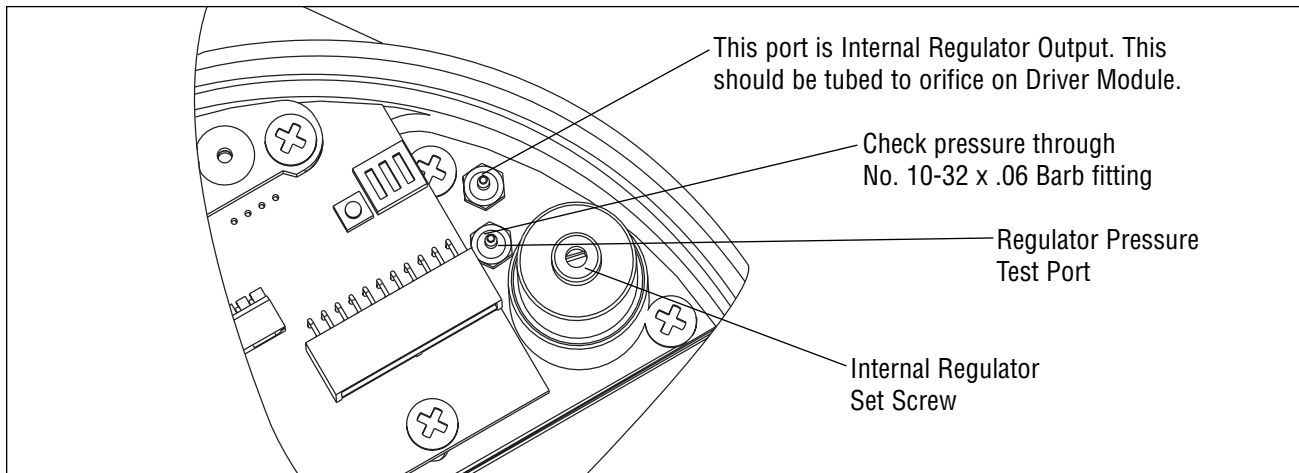

Figure 18: Internal Regulator
2. Remove the main cover. The regulator pressure set port is factory plugged with a No. 10-32 hex plug (Figure 18). Replace hex plug with a No. 10-32 x .06 barb fitting.
3. Using a 0 to 30 pressure gauge attached to some .06 flexible tubing, push the .06 tubing onto the barb fitting shown in Figure 18.